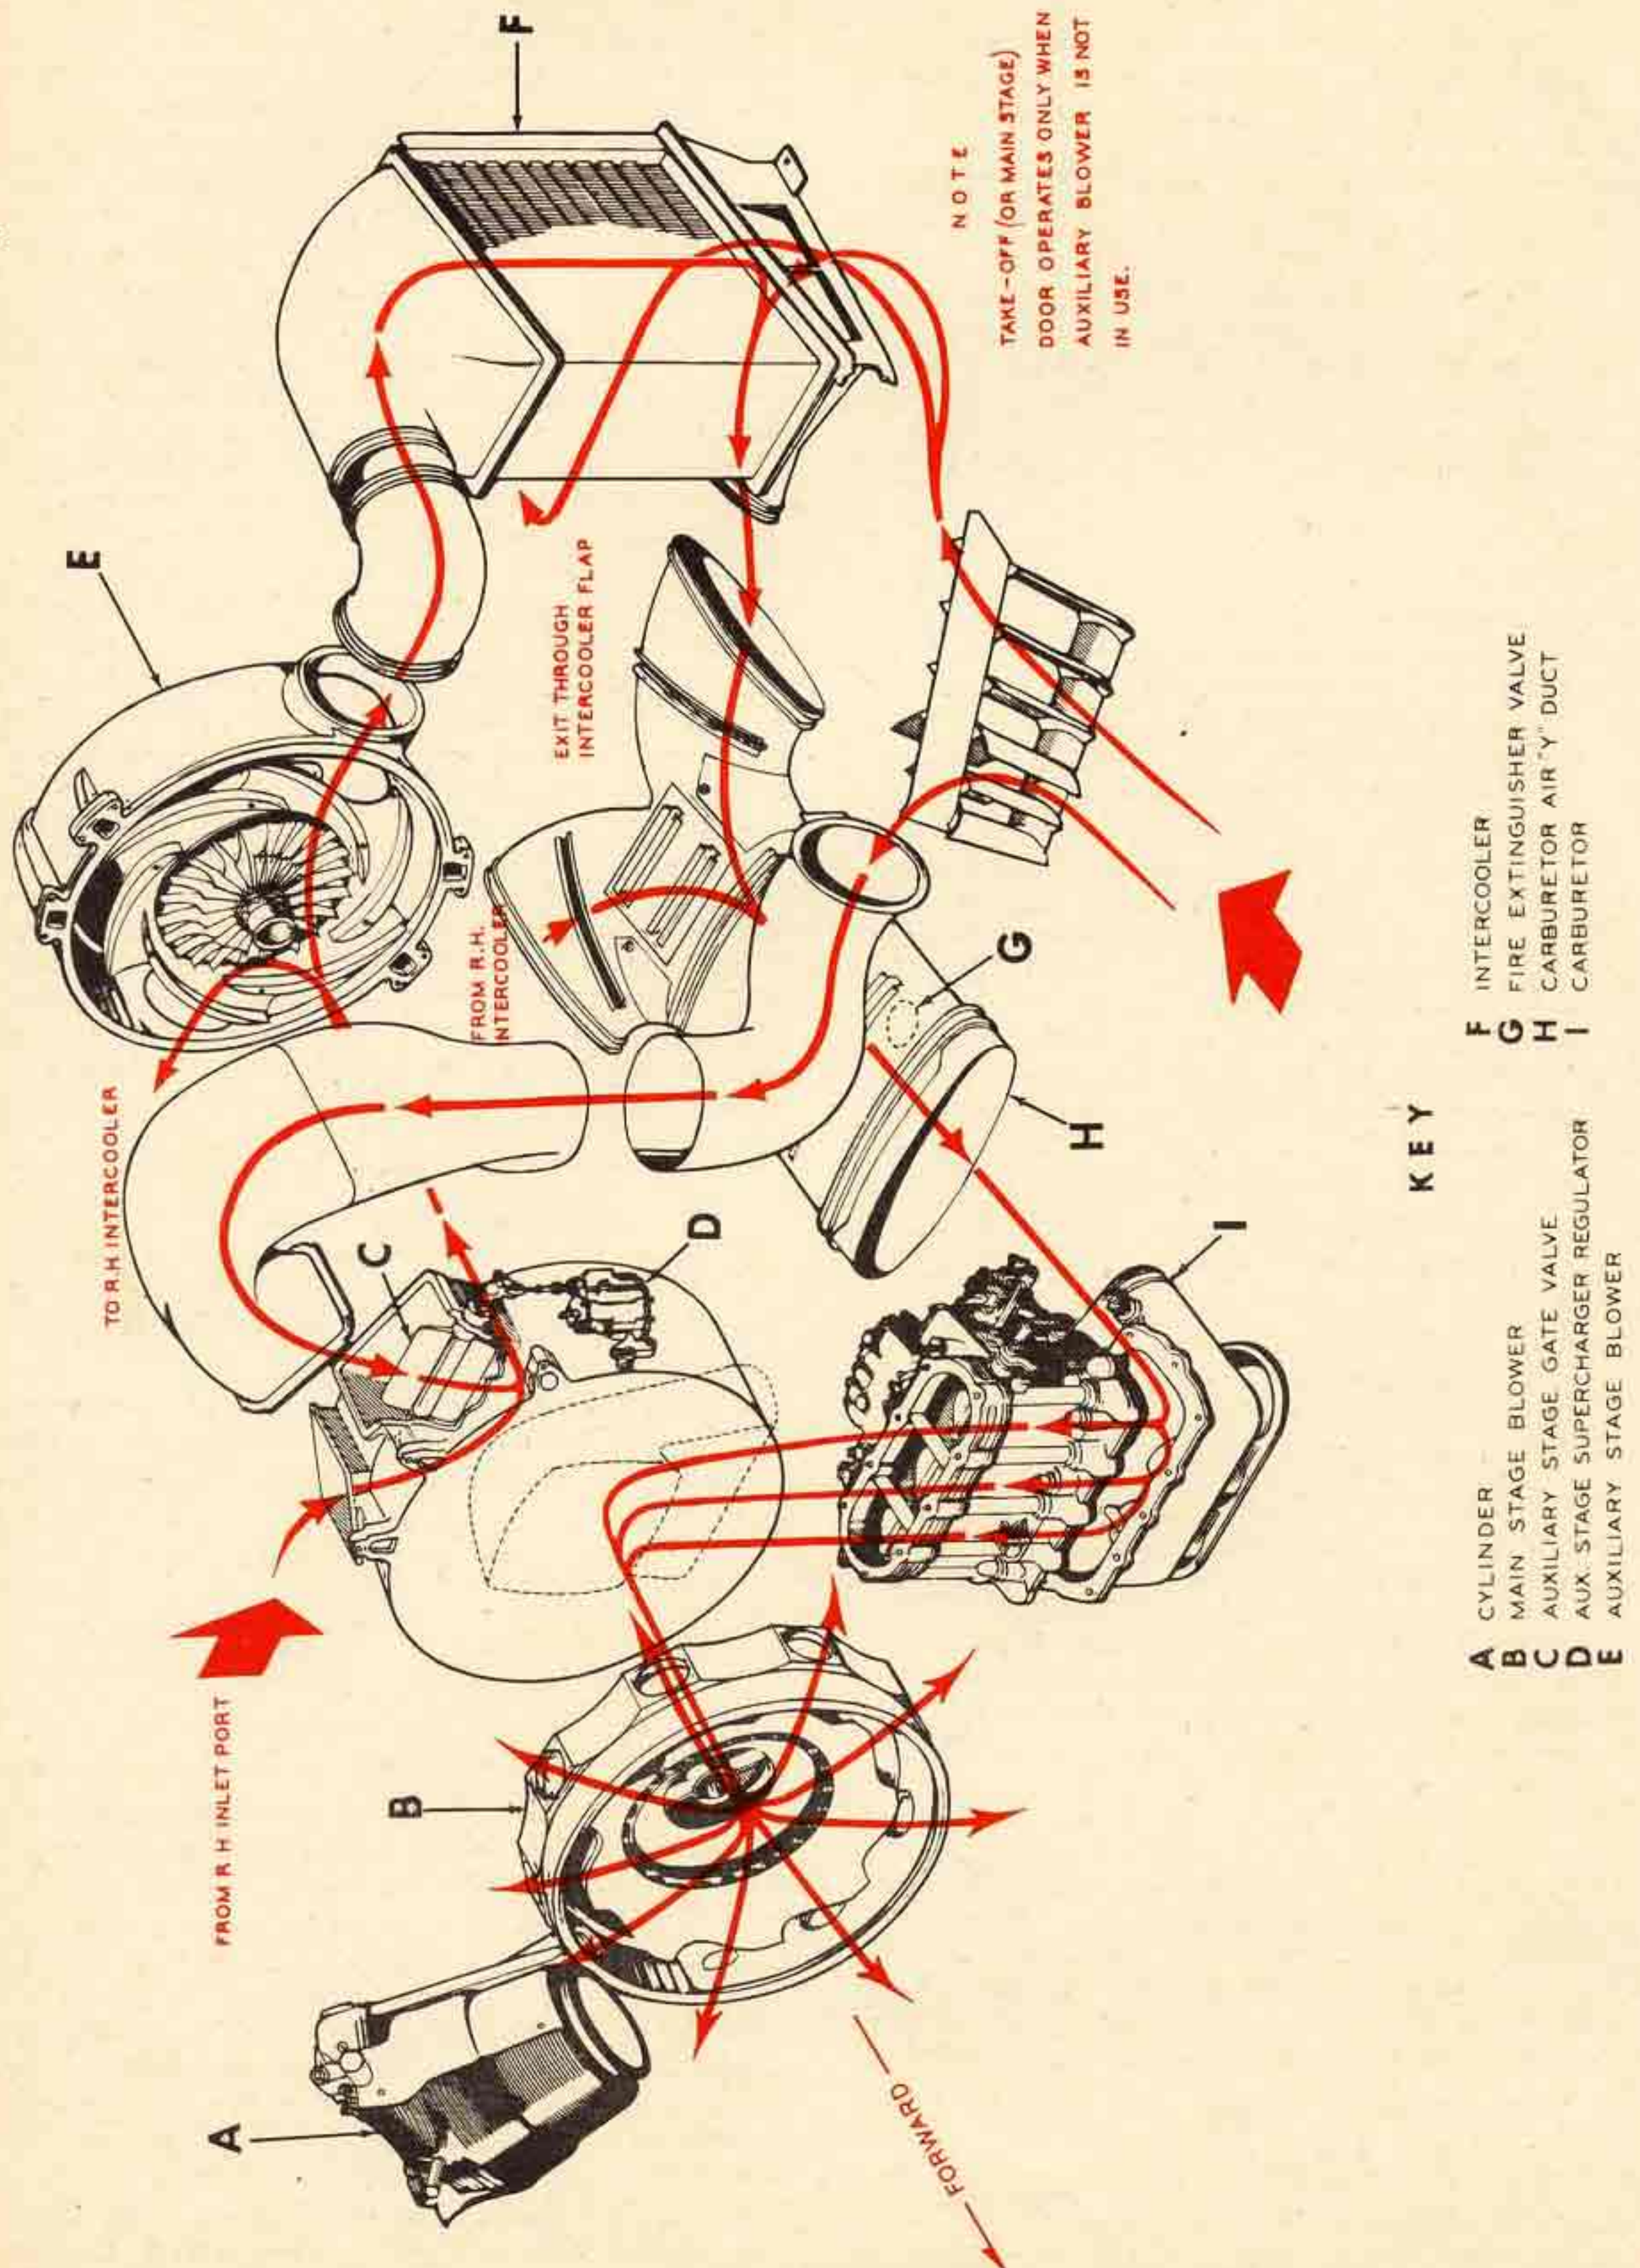

Figure 7—Induction System
(5) SUPERCHARGER CONTROL. — The two stage supercharger induction system installation is shown diagrammatically on figure 7. The main stage impeller is geared directly to the crankshaft, and the auxiliary stage impeller is driven through oil-operated clutches by means of which it can be engaged in either of two fixed gear ratios ("LOW" or "HIGH").